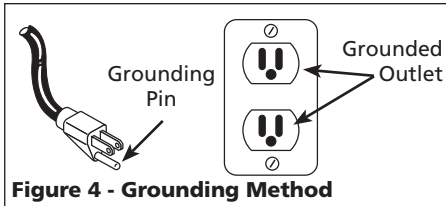

Figure 4 - Grounding Method
4. This product is for use on a nominal 120 volt circuit and has a grounding plug that looks like plug illustrated in Figure 4. Make sure that product is connected to an outlet having same configuration as plug. This product must be grounded. In the event of an electrical short circuit, grounding reduces risk of electrical shock by providing an escape wire for electric current. This product is equipped with a cord having a grounding wire with an appropriate grounding plug.